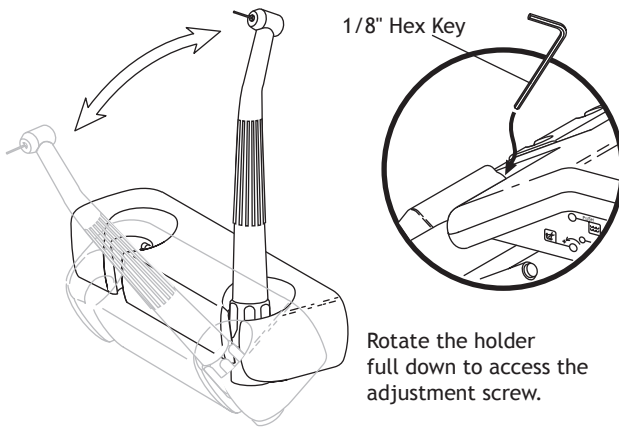

Figure 11. Unitized Handpiece Holder
- Loosen or tighten the tension adjustment screw (see Figure 11).